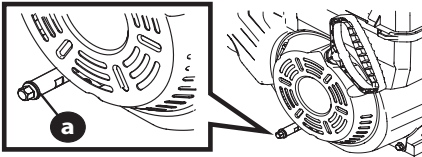

Figure 9
NOTE: Depending on engine model, the oil drain plug may be located on the front and/or rear side of the block, or as an extended tube (shown in Figure 9). Examples are shown in Figure 4 on page 7.
5. Clean area around the oil drain plug (a) (Figure 9).
7. Remove the oil drain plug (Figure 9).